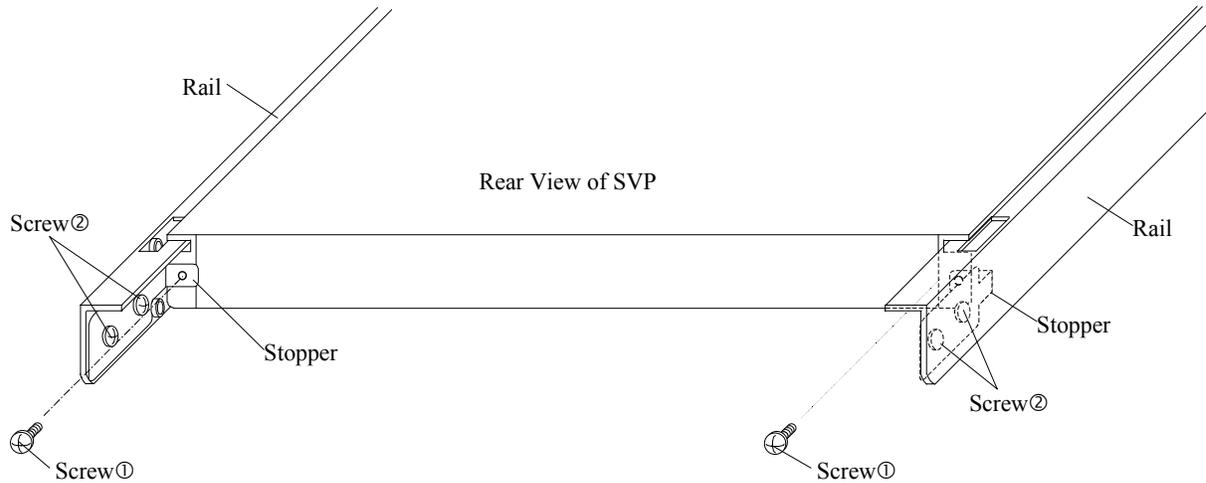

Fig. T5.1-3 Removal of Screws
- b. Fix the stoppers with the six screws. Refer to Fig. T5.1-3.